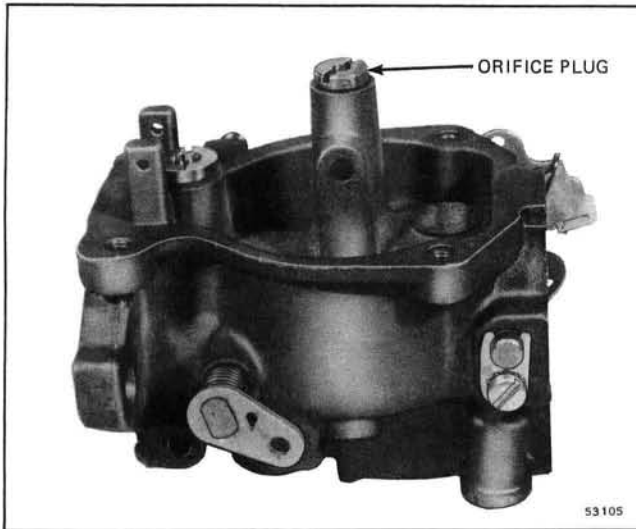

Figure 3-14. Carburetor Orifice Plug
c. Remove orifice plug. See Figure 3-14. For orifice plug identification, see Specifications, Section 2.